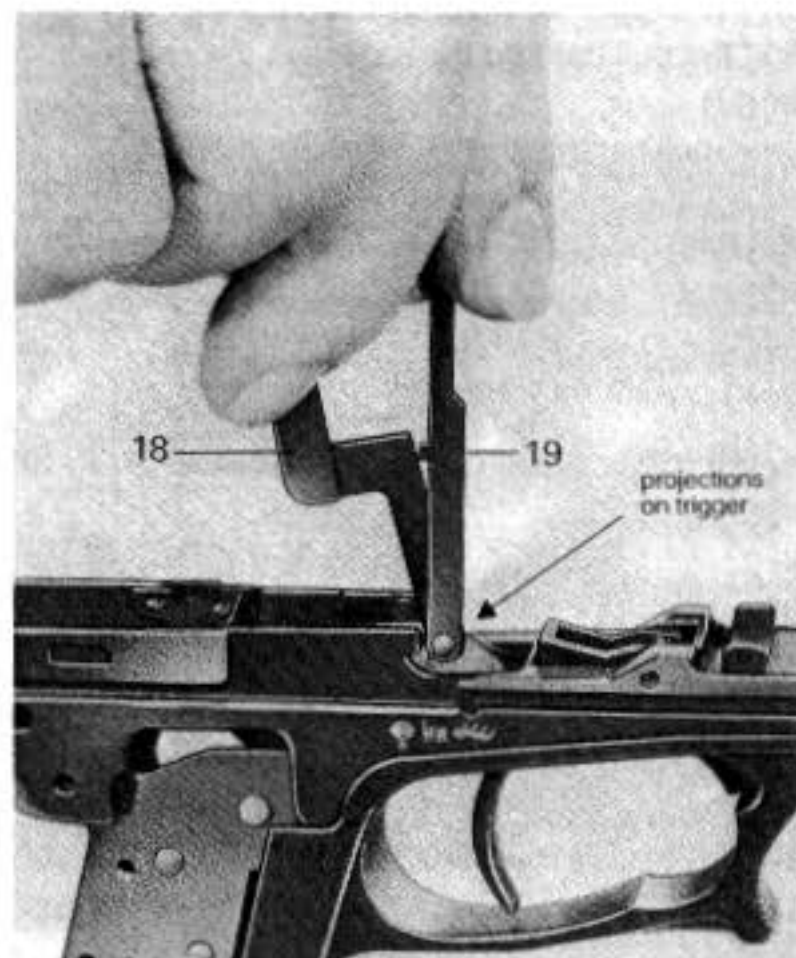

Fig. 40
- Fit the pull bar (18) and trigger bar (19) on over the projections on the trigger (Fig. 40).